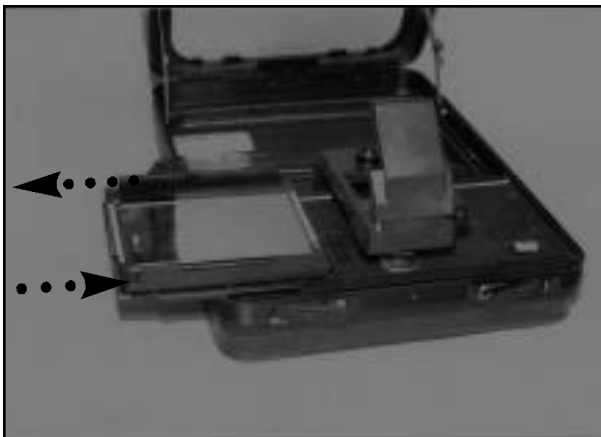

Figure 5
(Figures 5 & 6)
1. Slide the carrier to the far left position, and remove it from the runners (See Figure 5).